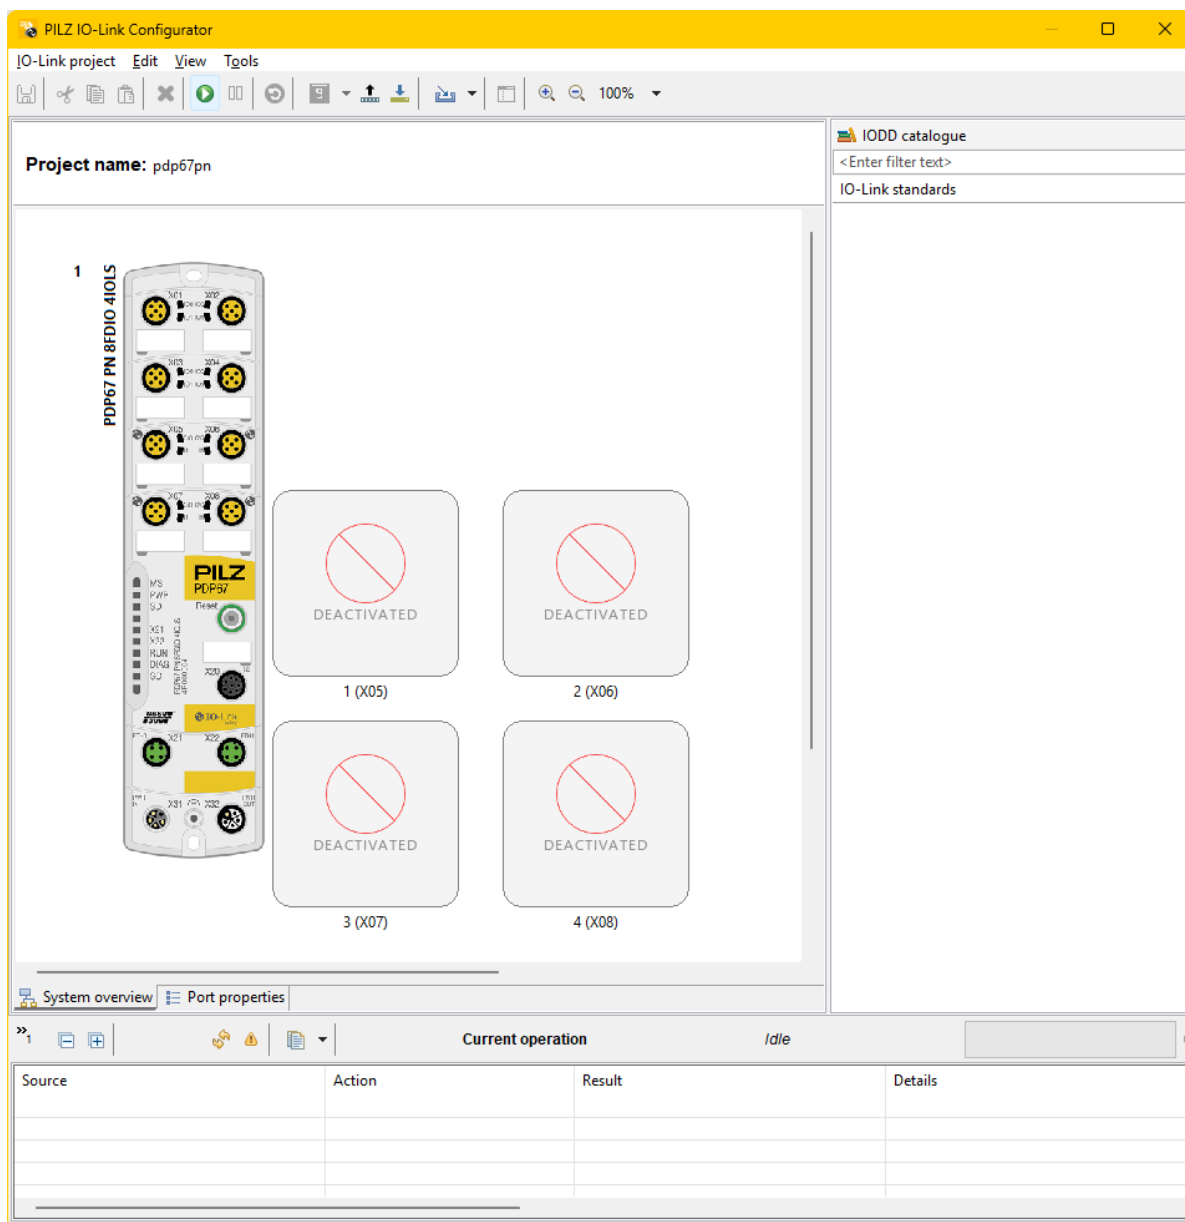

Figure 63: IO-Link Configurator – Overview
---	The status of the IO-Link safety device is unknown. This means that the IOLS device is: » in its delivery state, see note at Figure 63 [43] or » NOT in armed mode and NOT in commissioning mode or » a standard IO-Link device is connected.